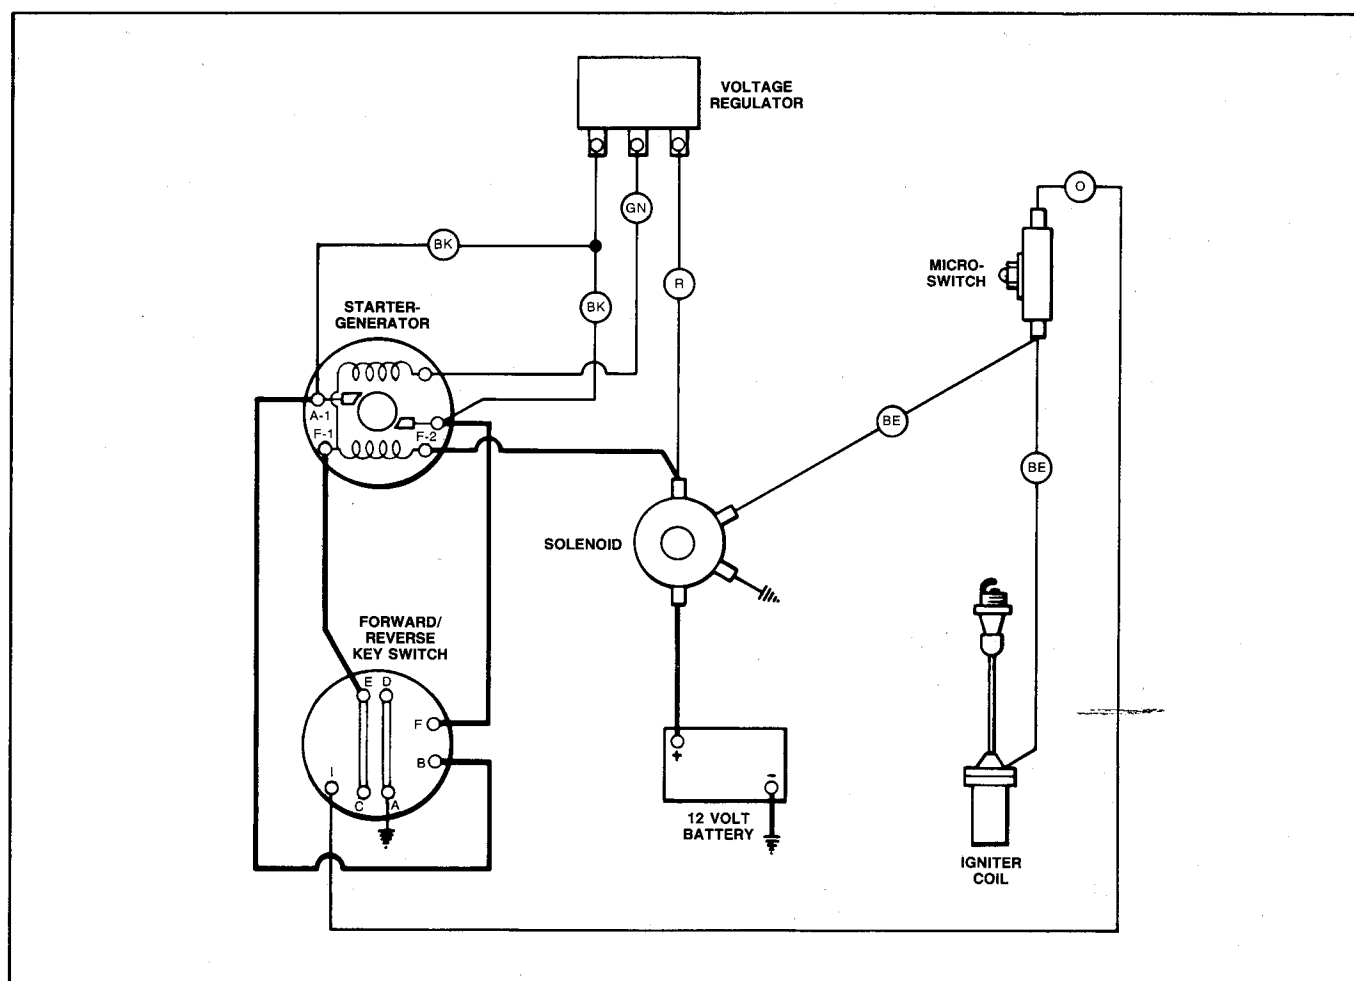

Figure 103 – Wiring Diagram
- b. See wiring diagram, Figure 103. Reconnect the voltage regulator wires as follows: